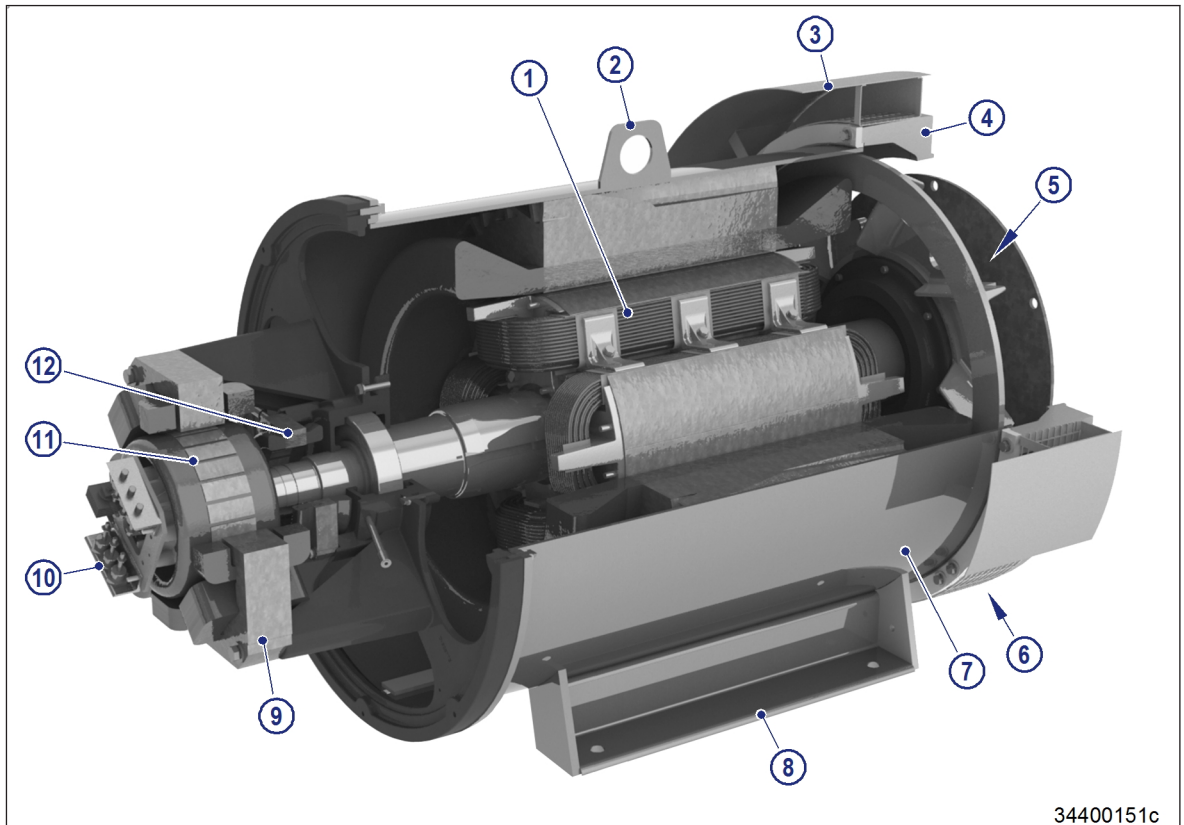

Figure 3: Generator interior view
Generators can differ from type to type in their appearance but not in their main functions. The figure (→ Figure 3) shows a typical generator with its components.
The figure (→ Figure 3) shows the two main parts of a generator: the rotor (1) and the stator (in 7) which are integrated in the generator main body (7). An outlet box allows good load access from all sides.